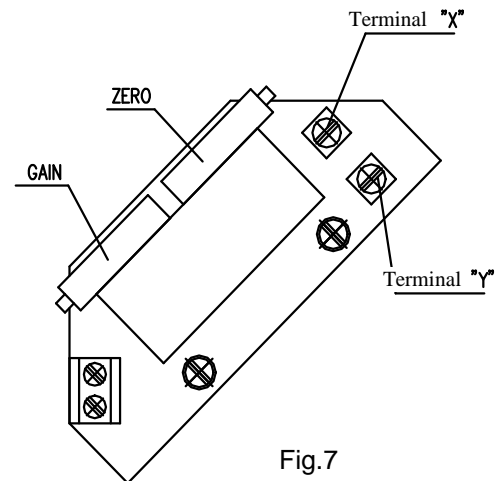

Fig.7
4.4.1 EPV – the 2-wire version (Fig. 7,7a)
- Adjust the resistive transmitter according to the previous chapter. The resistance is to be metered on the terminals X-Y (Fig. 7,7a). The used transmitter resistance is 100 Ω.
- Adjust the resistive transmitter according to the previous chapter. The resistance is to be metered on the terminals X-Y (Fig. 7,7a).